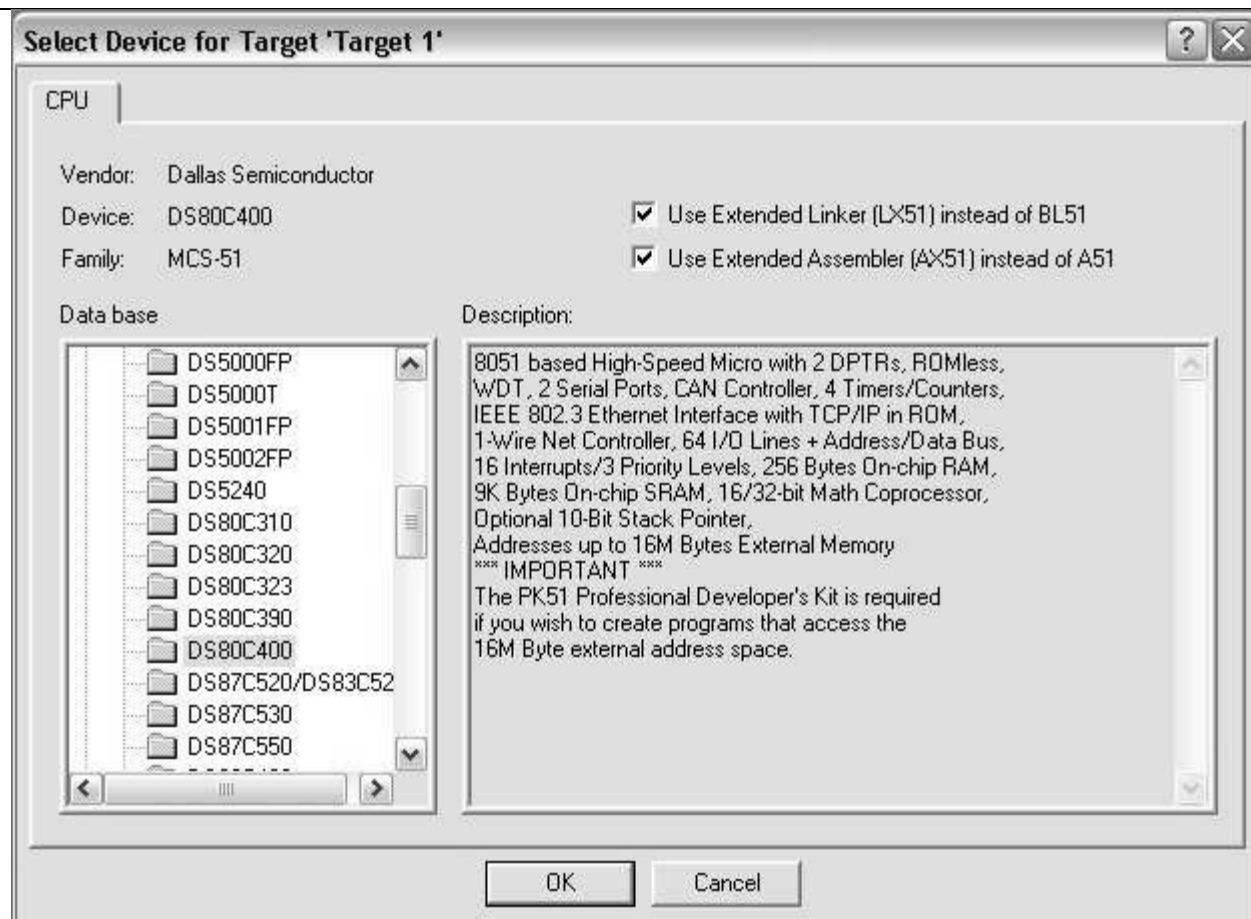

Figure 1, Selecting the Device for a new Keil uVision2 Project
- The *Select Device for Target* dialog will pop up. Under *Data base*, select **Dallas Semiconductor** and the **DS80C400**. Select *Use Extended Linker*, and then select *Use Extended Assembler*. Hit **OK** to continue. Figure 1 shows the proper configuration for this dialog.